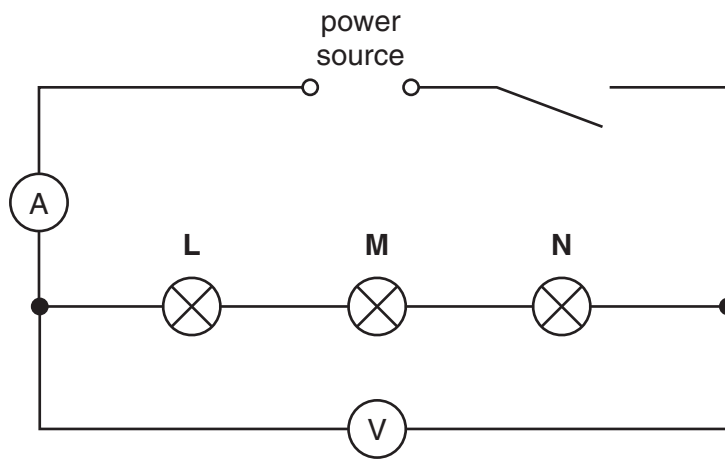

Fig. 2.2
3. The candidates will be required to set up the circuit shown in Fig. 2.2.